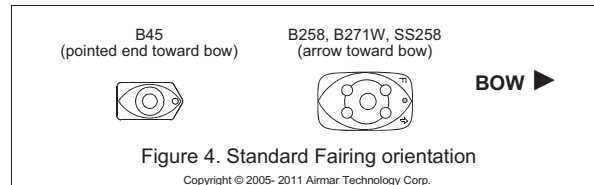

Figure 4. Standard Fairing orientation
3. Place the fairing on the table, so the cutting guide rests against the fence. The arrow/pointed end will be pointing *toward* you for installation on the starboard side of the boat or *away* from you for installation on the port side (see Figure 4).
forward toward the bow. The long side must be parallel to the centerline of the boat (see Figure 4).